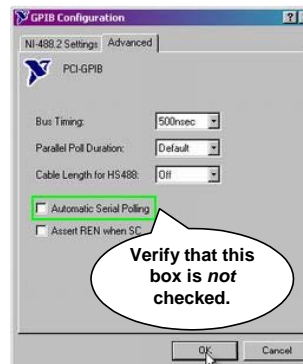

Figure 13. GPIB Configuration dialog, Advanced tab
- c. Select **Properties**. This opens the **GPIB Configuration** dialog (Figure 13). If necessary, click on the **Advanced** tab to bring it forward.